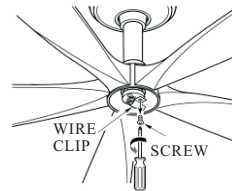
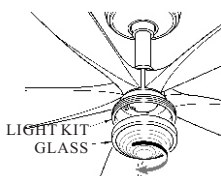
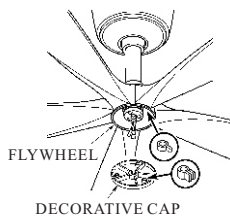

FIG.11
FIG. 19
FIG. 20
When you want to install light kit, remove the wire clip first. (see fig.11)
6. Turn the glass assembly to install onto light kit plate. (see fig.19)
7. If you do not need the light kit, you can also install the decorative cap directly onto the flywheel. Skip fig.11 to fig.19. Align the 3 slots with 3 ribs, and lift the decorative cap onto flywheel and tighten the 3 long screws. (see fig.20 and fig.21)